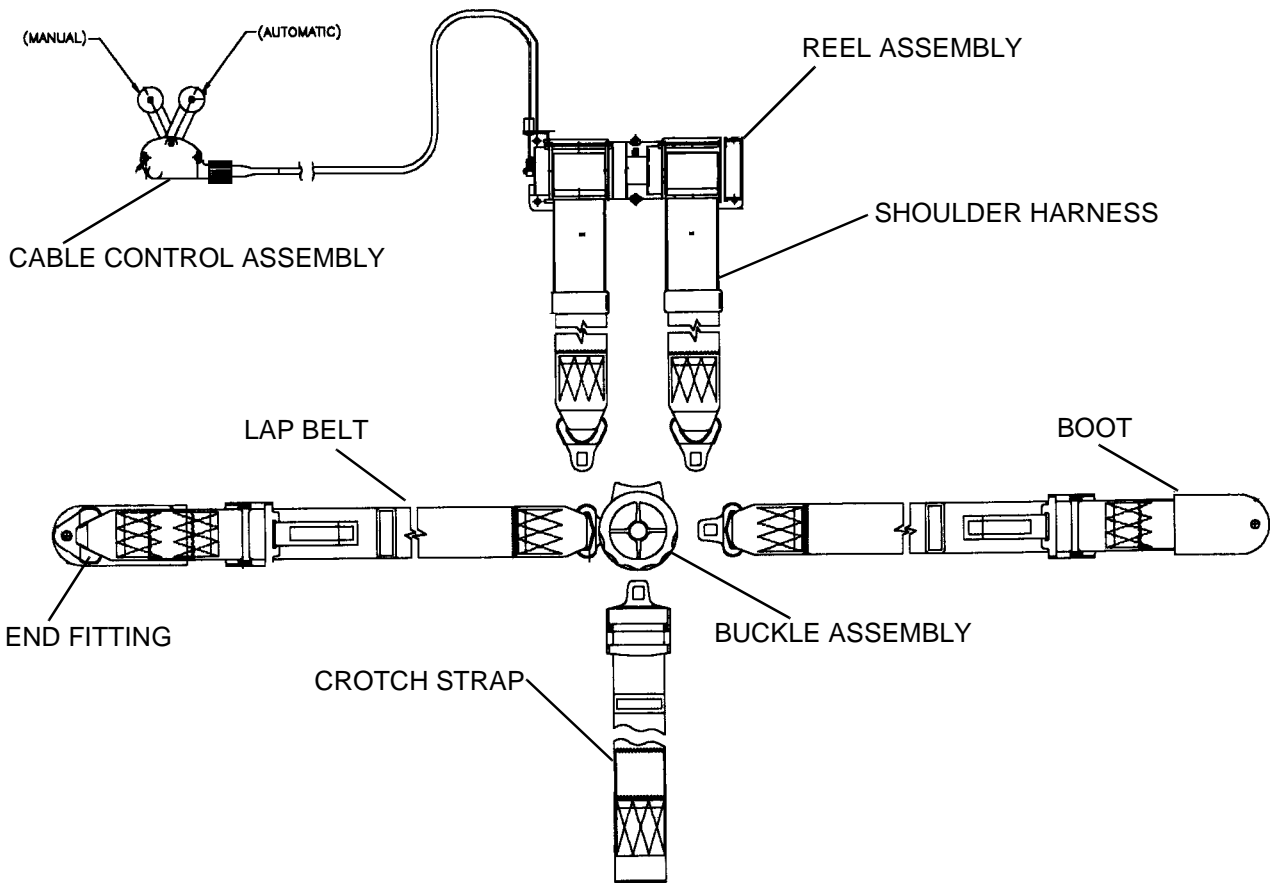

Figure 1. Typical Restraint System Assembly
- A. The restraint system primary components (Figure 1) may include:
- (1) Lap Belt
- (2) Rotary Buckle (Left Hand, Right Hand, or Crotch Fixed)
- (3) Shoulder Straps
- (4) Crotch Strap
- (5) Reel Assembly
- (6) Emergency Locking Retractors
- (7) Plug-in Connector Adjustor
- (8) Control Cable (Control Handle, Shielded Cable, and a Fitting)